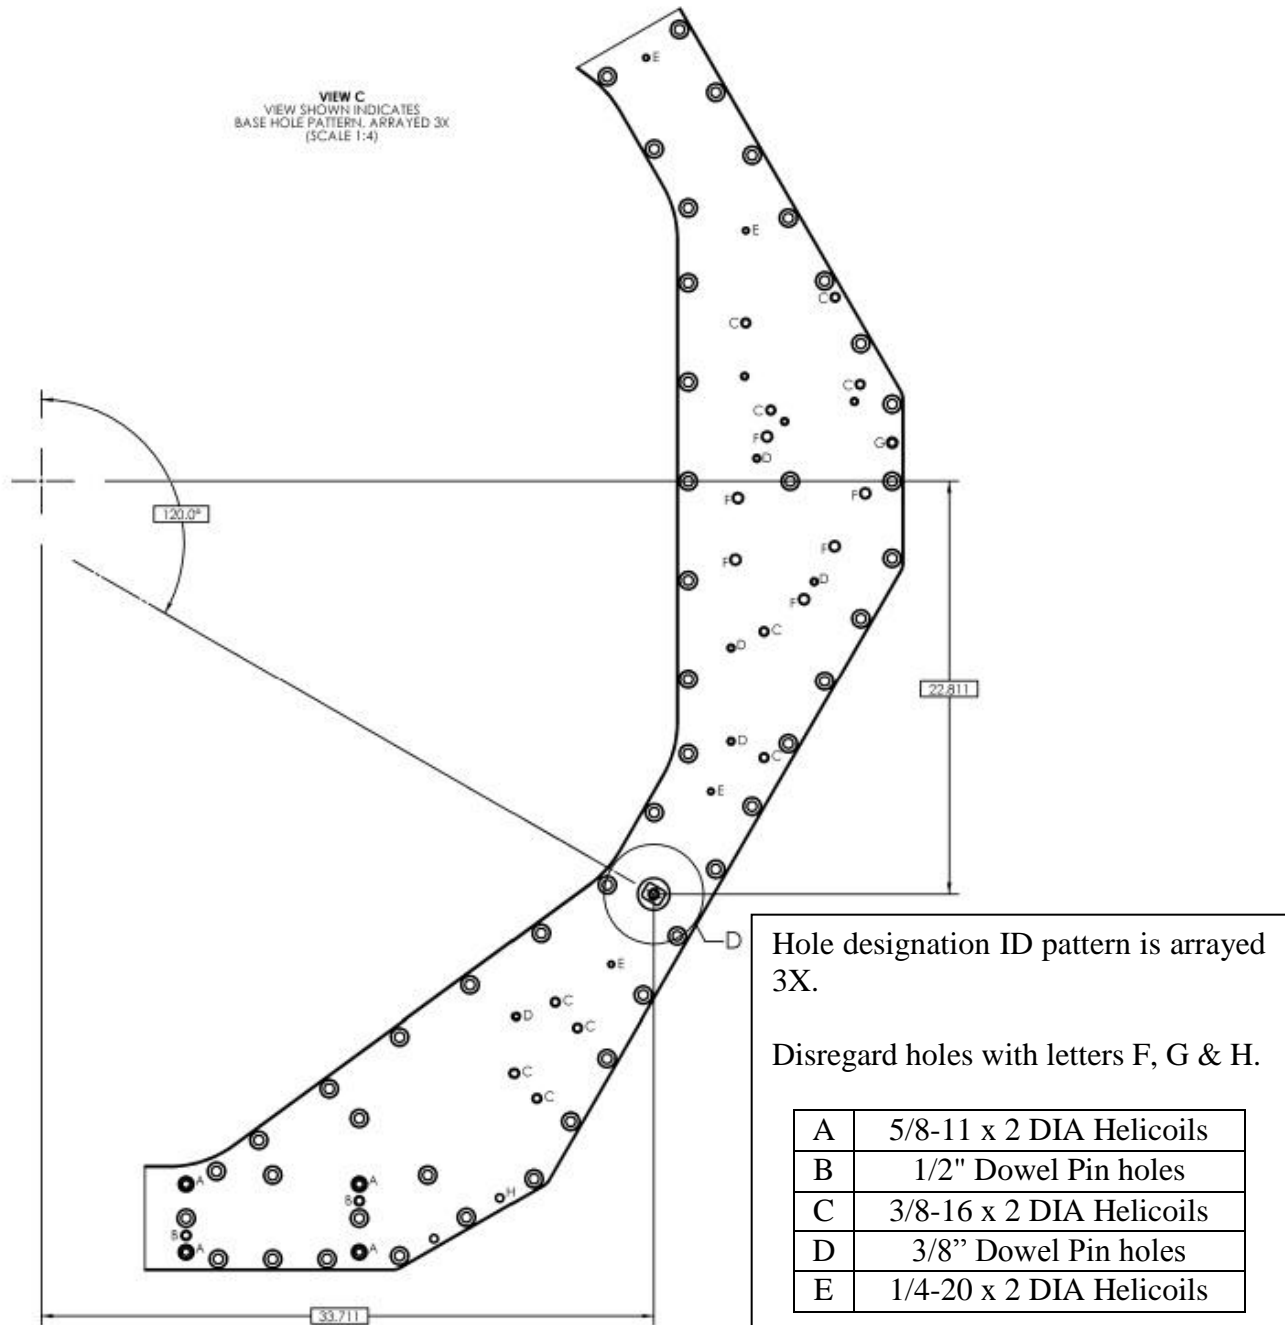

Figure 7: Prep Work of D0900895 Top Part of Stage 0
(6) 1/2" x 1.25" dowel pins
- Install Nitronic 60 Helicoil threaded inserts into D0900895 as shown on Figure 7
- Press (6) 1/2" x 1.25" dowel pins into D0900895. Pins should sit about 0.5" above the surface.
- Press (24) 3/8" x 1" dowel pins into D0900895. Pins should sit about 0.4" above the surface.
- Bring D0900895 Top Part of Stage 0 over D0900894 as shown on Figure 7 and position it by aligning the 3 dowel pins in D0900894 with the 3 slots in D0900895.